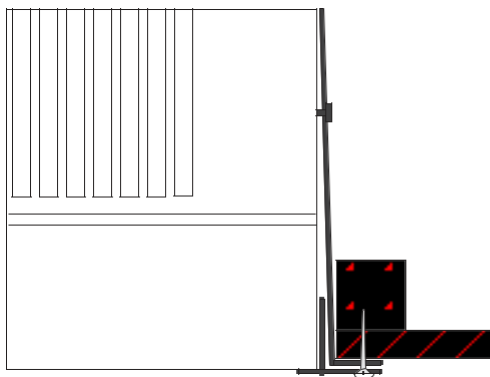

Fig 1
1) Locate the brackets flush with the front of the heater. Place unit in ceiling from below and secure brackets with woodscrews provided.(see Fig 1). Ensure sufficient space is left to allow the insertion of the grille frame between heater and bracket. This option may require electrical connection prior to positioning..T he grille frame is then positioned and fixed with the 2 round headed screws provided.